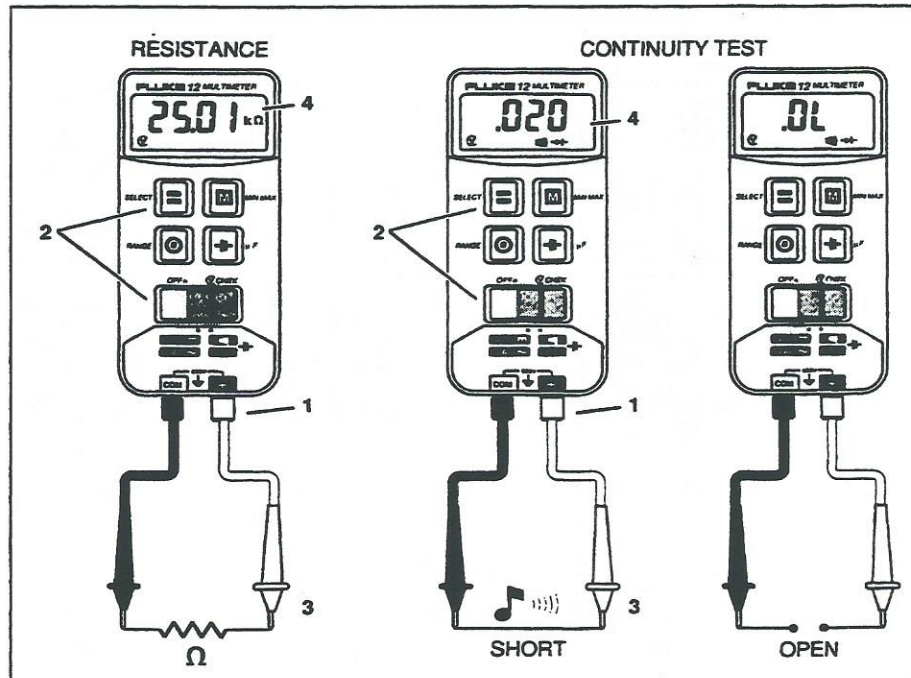

Figure 4. Continuity and Resistance Measurements
2. Put the slide-switch in the continuity/ohms position (Figure 4).